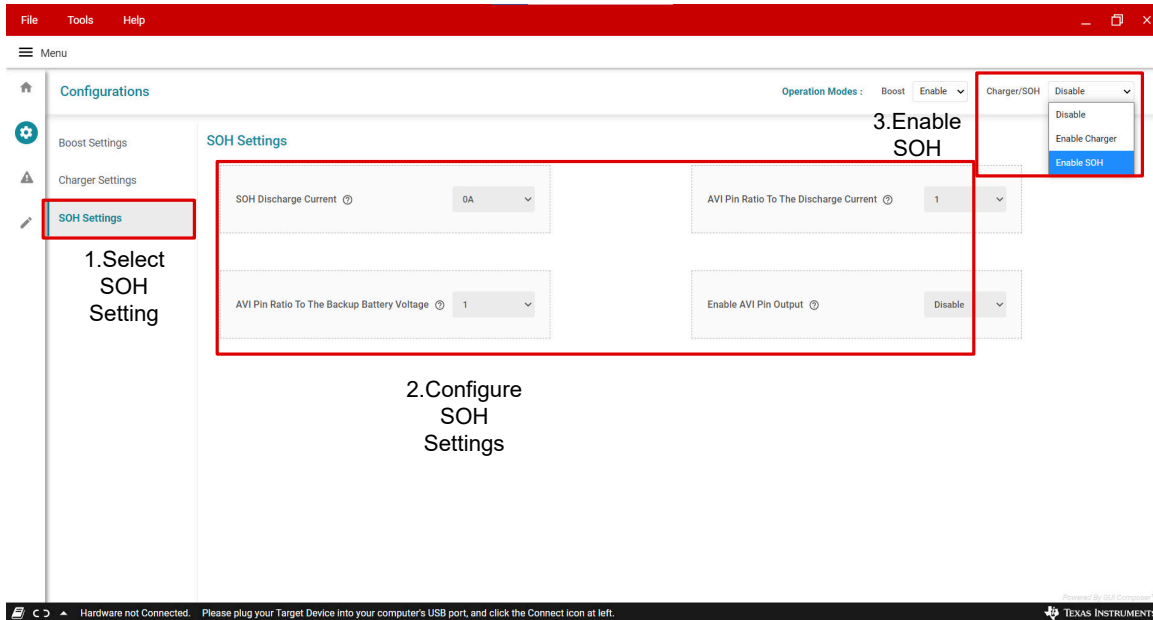

Figure 3-5. SOH Settings Sheet
- Click the *SOH Settings* button and switch to the SOH Settings Sheet (see Figure 3-5). Set the SOH discharge current, AVI pin output ratio, AVI output, and so forth according to the design target.